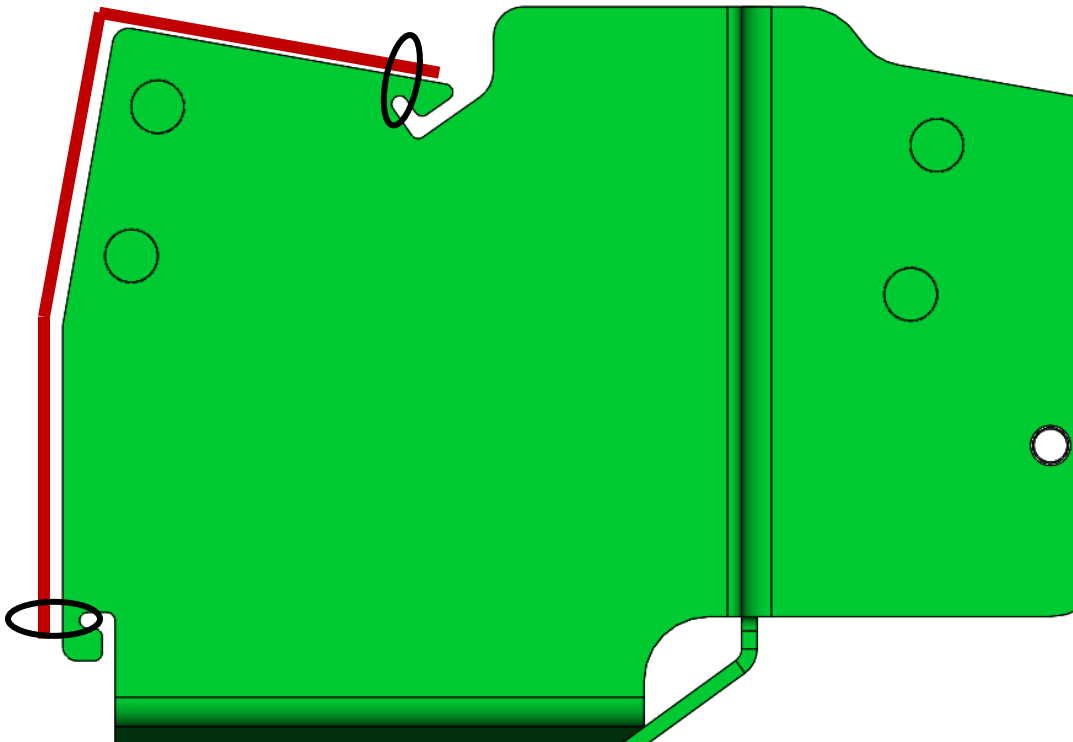

Figure 4 – Rubber Trim shown ziptied to JL-301
- 9.1.3. To protect fuel line against potential abrasion during severe off-road use, install rubber trim Hardware #8 to JL-301 along outer edge shown in red in Figure 4 below; zip tie ends of trim to reliefs circled.